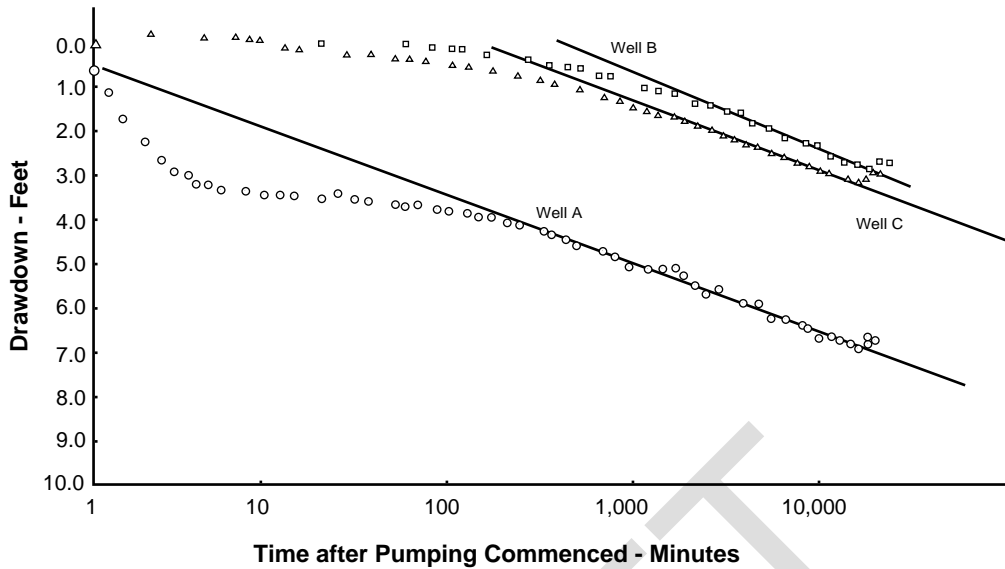

Figure 10. Drawdown versus log of time in observation wells A, B, and C during pumping of R#1.
The results from the long term pumping test are shown on Figure 10 as a semi-log data mass plot (drawdown versus log time) of the data for the three (3) observation wells. The large initial water level decline for Observation Well A is due to its close proximity to the pumping well (15 feet). The rise in water level at the end of the test was caused by a slight decrease in discharge rate.